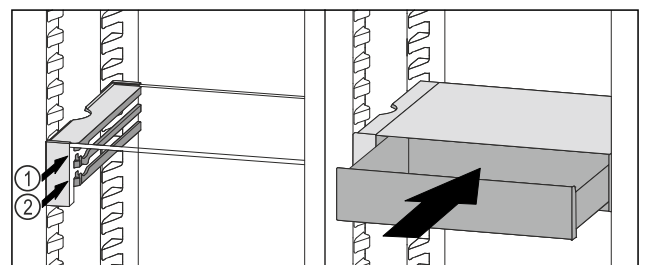

Fig. 114
- ▶ Place the VarioSafe drawer behind the stoppers on desired rib Fig. 114 (1) or Fig. 114 (2).